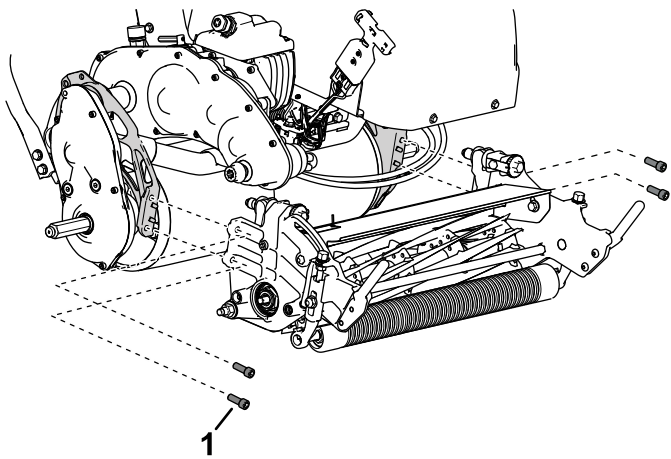

Figure 41
5. Use 4 socket-head screws to secure the cutting unit to the frame (Figure 41).